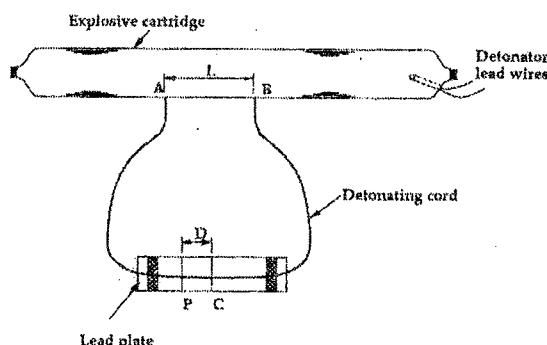

Figure 1
1.8 Figure 1 is the Dautriche test used to determine